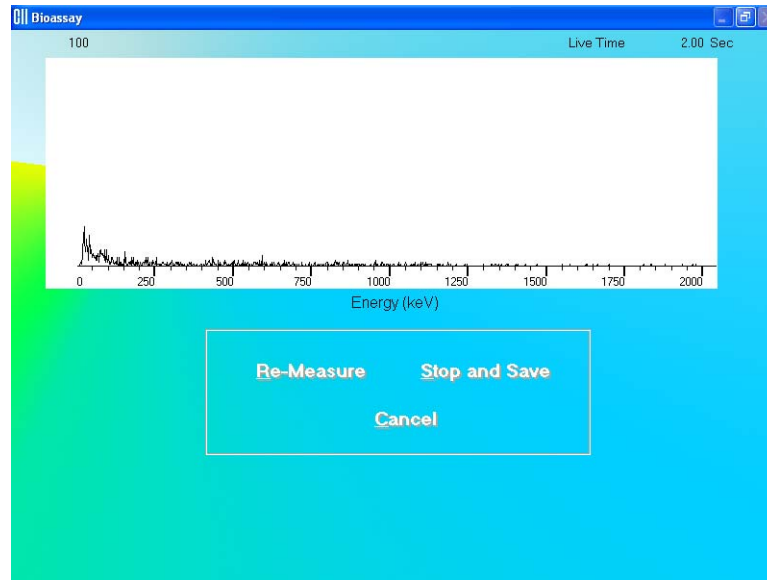

Figure 11-21
- a. Verify that there are no radioactive sources in the area and click the  button to measure background counts. The screen appears as shown in Figure 11-21.
To begin counting, click the  button. The spectrum is displayed as shown in Figure 11-21 above. To cancel measurements, click the  button. The screen then appears as shown in Figure 11-23.